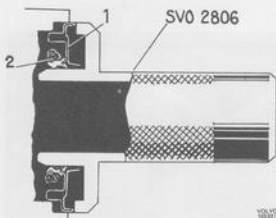

Fig. 4-152. Fitting oil seal
3. Coat the seal lips of the new ring with grease. Lubricate also the spring coil so that it does not jump off during fitting. Then fit the oil seal with 2806, see Fig. 4-152.